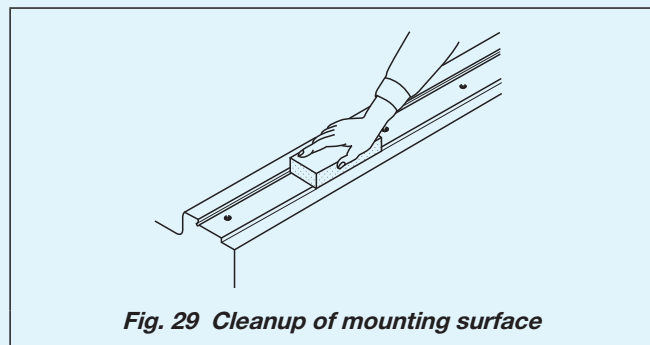

Fig. 29 Cleanup of mounting surface
- Remove burrs and blemishes by using oil-stone, etc. from reference mounting surface and mounting surface of the machine or the device to which Linear Way is mounted and wipe off with clean cloth. (see Fig. 29)